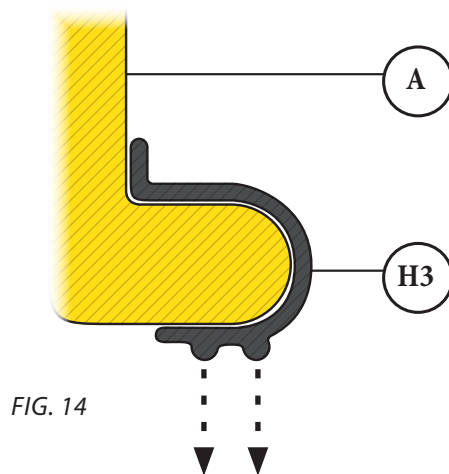

FIG. 14
Install the Barrel Gasket (H3) onto the rounded, bottom edge of the Motor Assembly (A). The Barrel Gasket should be oriented so that the "ribbed" side is facing downwards [FIG. 14].